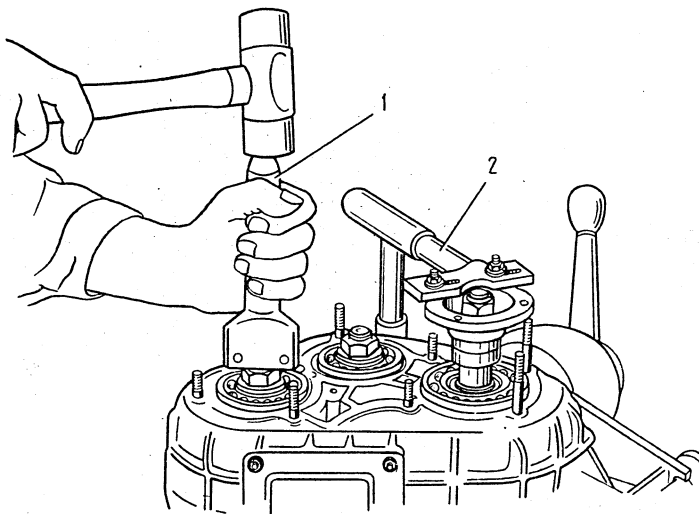

Fig.3-42. Pressing the Rear Axle Drive Shaft Flange Nut:
- for upsetting the nuts of the transfer case shaft use fixture 67.7820-9520 (Fig. 3-42).